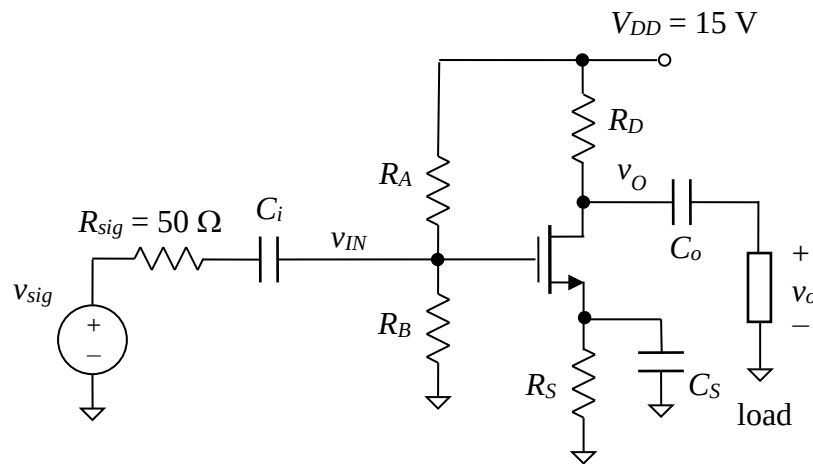

Figure 2. A basic common-source amplifier circuit.
- Now add a function generator, three capacitors, and a load to the four-resistor bias circuit to form the common-source amplifier circuit shown in Figure 2 on the next page. Component values and descriptions are listed below: